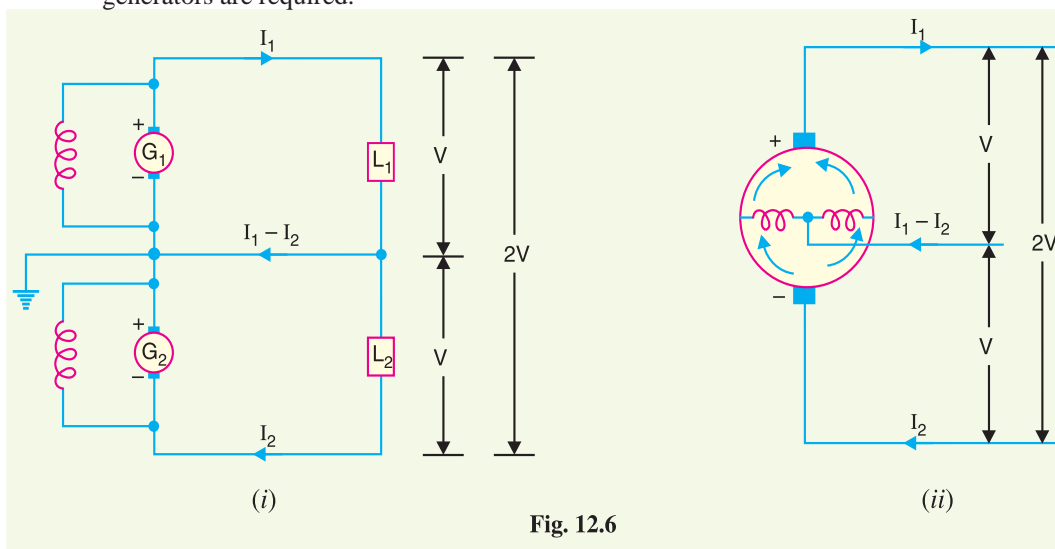

Fig. 12.6
- (i) **Two generator method.** In this method, two shunt wound d.c. generators G_1 and G_2 are connected in series and the neutral is obtained from the common point between generators as shown in Fig. 12.6 (i). Each generator supplies the load on its own side. Thus generator G_1 supplies a load current of I_1 , whereas generator G_2 supplies a load current of I_2 . The difference of load currents on the two sides, known as out of balance current ($I_1 - I_2$) flows through the neutral wire. The principal disadvantage of this method is that two separate generators are required.
- (ii) **3-wire d.c. generator.** The above method is costly on account of the necessity of two generators. For this reason, 3-wire d.c. generator was developed as shown in Fig. 12.6 (ii). It consists of a standard 2-wire machine with one or two coils of high reactance and low resistance, connected permanently to diametrically opposite points of the armature winding. The neutral wire is obtained from the common point as shown.